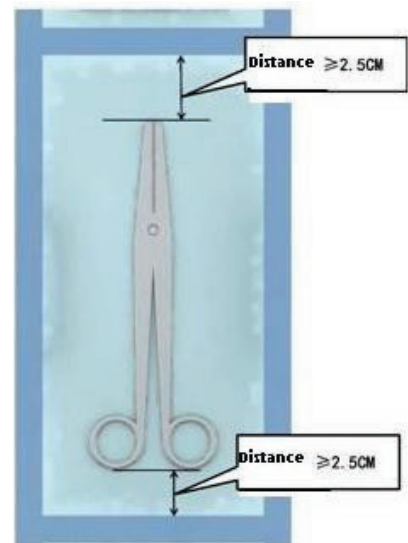

Figure 6
2. Select matching sterilization bags for the contents. Turn print off and seal one edge of the bags. Then put items into the bags. In accordance with *WS310.2-2009*, the sufficient distance between the seal edge and the inside content must be not less than 2.5cm (Figure 6).